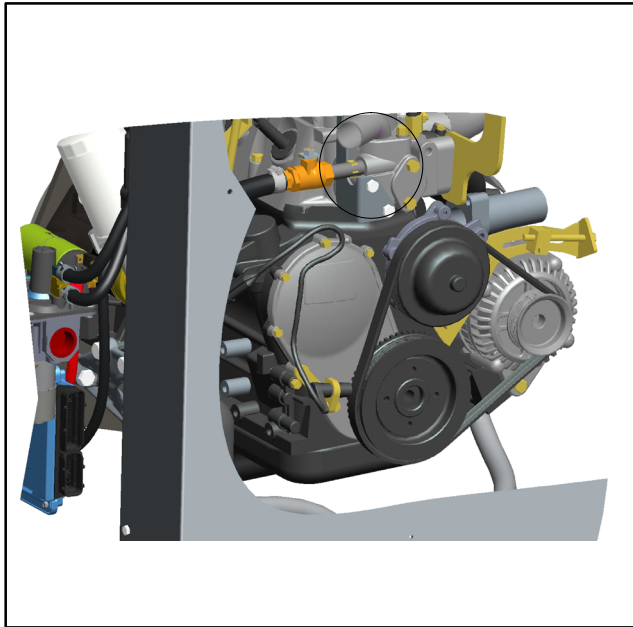
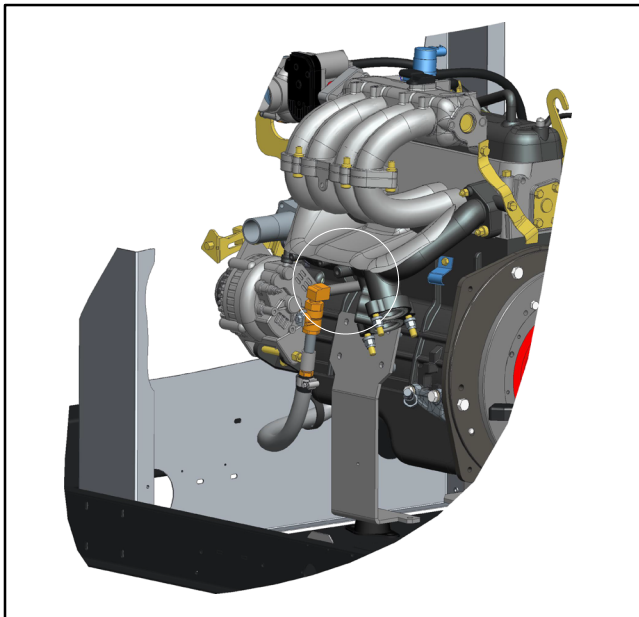

Figure 10 Location of upper plug
Figure 11 Location of lower plug
10. Remove and discard the two plugs on engine using M8 allen wrench. See Figure 10 and Figure 11.